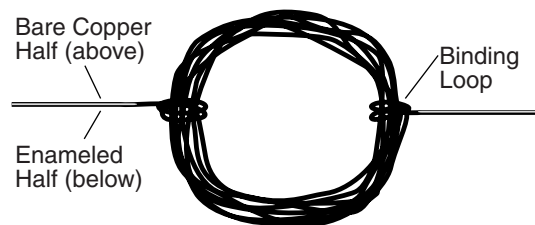

Figure 2. Coil Armature
4. To secure the loop shape permanently, wrap each free end through the loop and around the coil of wire 2 to 3 times. Make sure the binding loops are 180° apart and wrapped tightly around the coil wires. Straighten the free ends so that they are perpendicular to, but in the same plane, as the coil to serve as the axle to the coil armature (see Figure 2).
6. Obtain a small piece of sandpaper. Hold the coil at the edge of a table so the coil is straight up and down and one of the free ends is lying flat on the table. With the sandpaper, sand off the top half of the insulating enamel. Leave the bottom half of the enamel intact. Do the same to the other free end. Make sure the shiny bare copper side faces up on both ends (see Figure 2).